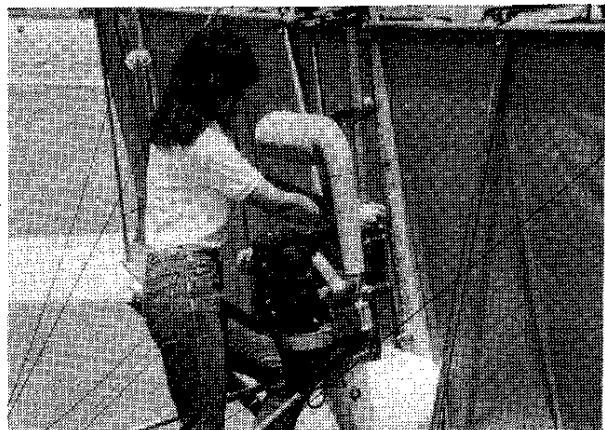

Figure 2.11
- 16.** Lift powerplant into position on root tube. Insert (2) AN5-26a's through engine mount assembly and root tube. Leave locknuts loose to make powerplant alignment easier. **Figure 2.11**